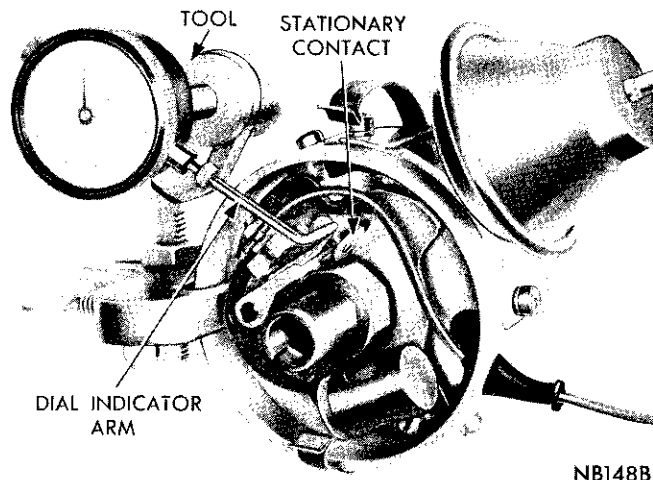

Fig. 8—Adjusting Contact Clearance with Indicator
(1) Loosen terminal screw nut, and remove primary lead and condenser lead.
(2) Remove stationary contact lock screw and remove old contact set.
(3) Install a new contact set; the sleeve at one end of adjustable bracket fits over and pivots on upper contact plate mounting pin.
(4) Connect condenser and primary leads.
(5) Align contacts, if necessary, by bending stationary contact bracket only. **Never bend** movable contact arm to obtain alignment.
(6) After aligning contacts, adjust contact clearance to "Specifications," using dial indicator (Fig. 8). Recheck contact arm spring tension.
(7) Test dwell angle to show proper degree of closure. See Paragraph, "Distributor Contact Dwell."